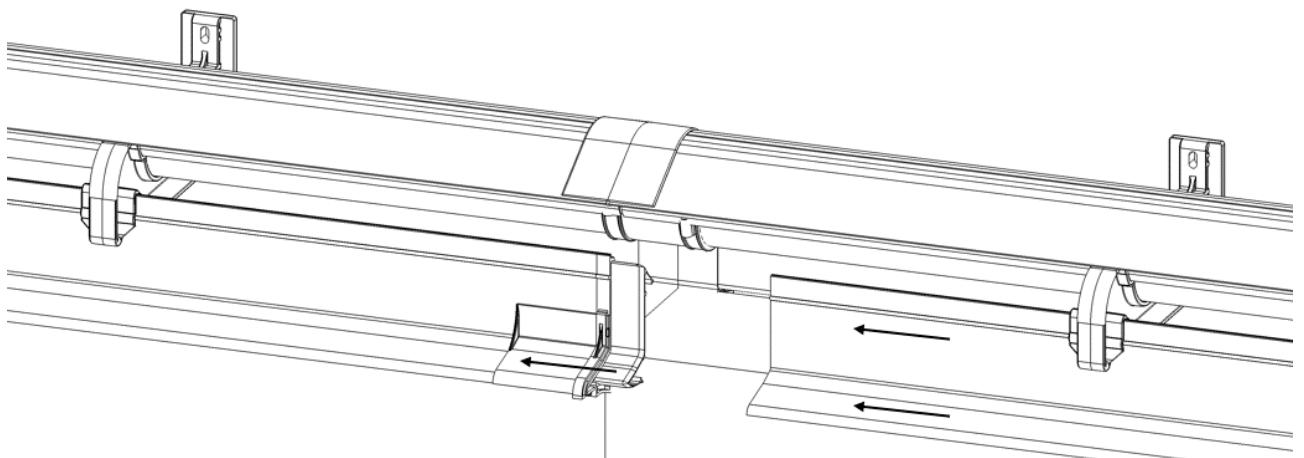

Figure 32
Repeat the procedure from Step 17 by inserting the Pad Guide Coupler [ref. 10] to connect the all Pad Guides together. Push the slider of the Pad Guide Coupler to the left and then insert the next Pad Guide. See Figure 32.